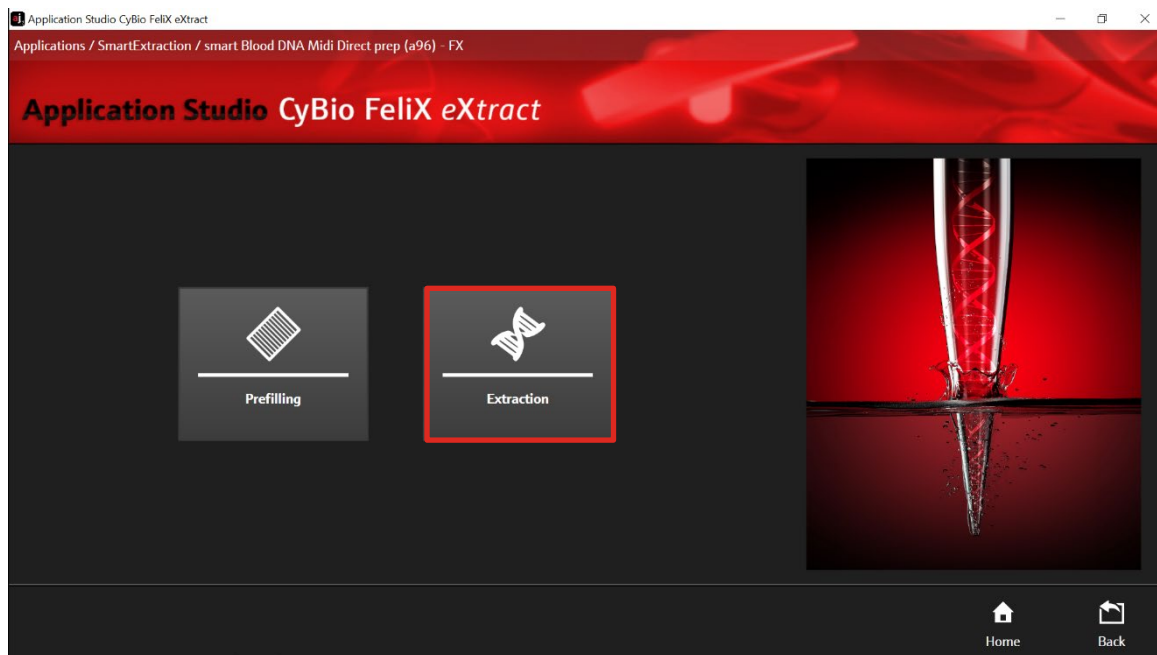

Figure 15: Routine selection: Extraction.
5. Select “Extraction” (→ see Figure 15).